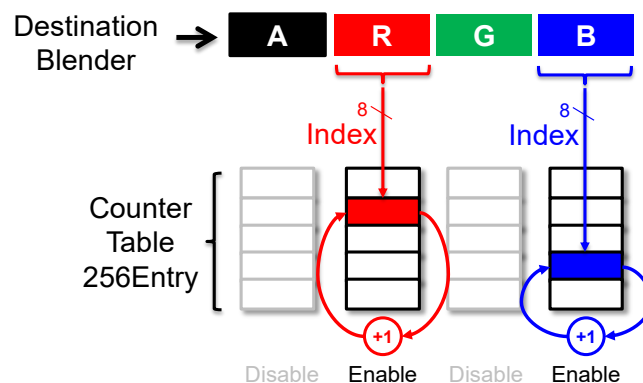

Figure 33 Histogram Counter and Table
- As shown in *Figure 33*, values less than or equal to PixelKeyLow are converted to the original pixel value, values greater than or equal to PixelKeyHigh are converted to 0xFF (0x100), and values in between are converted to 0. The reference pixel can be selected from either SrcMod or SrcOrg. Additionally, the inverse of the selected source (i.e., if SrcMod is selected, SrcOrg is used, and vice versa) can also be selected.